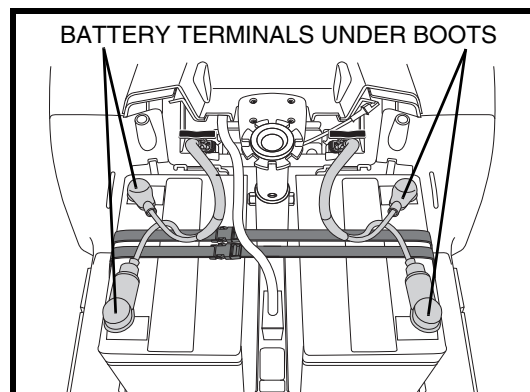

Figure 14. Battery Removal/Installation
3. Disconnect the battery harnesses by pulling them straight up. See figure 14.